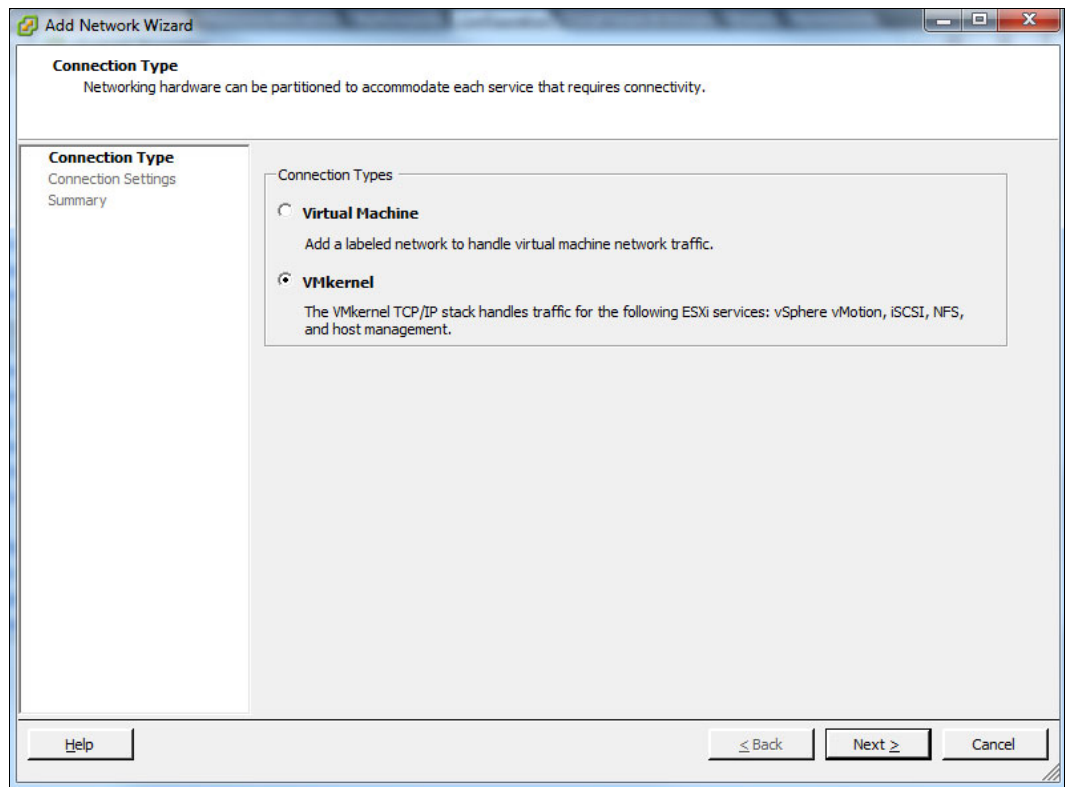

Figure 7-37 Connection type
3. In the Add Networking wizard, select **VMkernel**, as shown in Figure 7-37.